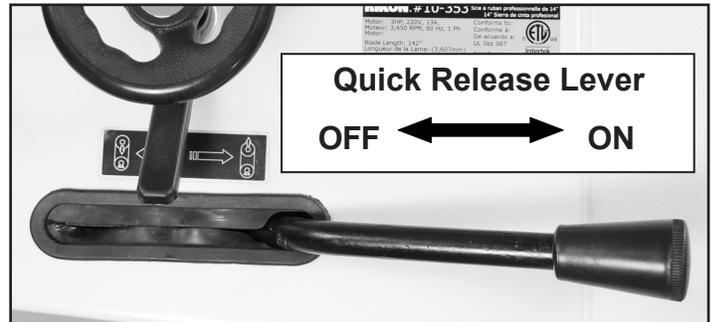
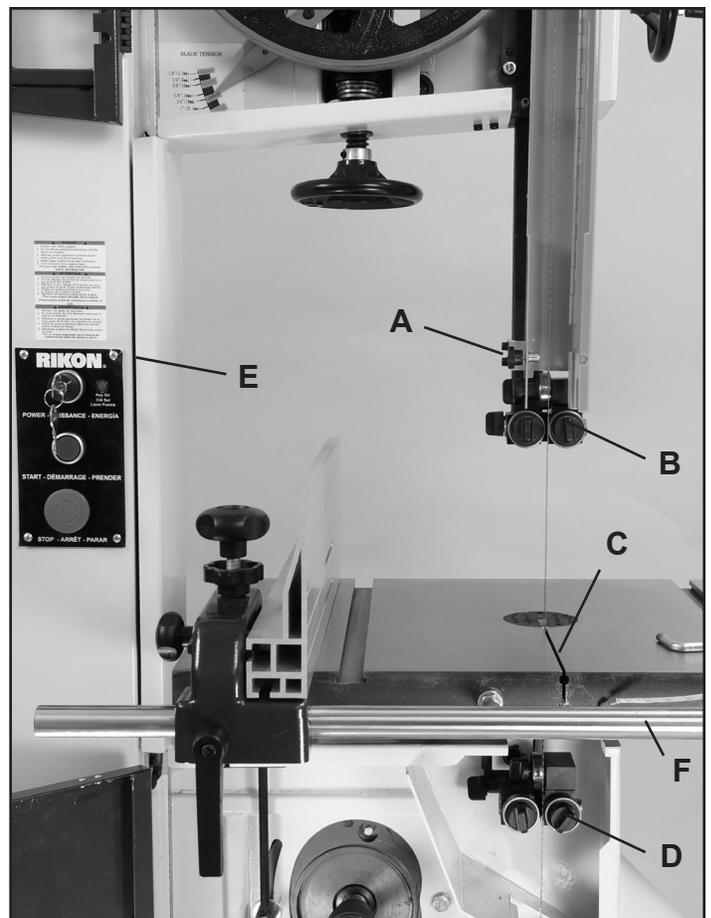

FIGURE 20
FIGURE 21
2. Release the blade tension by moving the quick release lever from the right to the left (OFF). Fig. 20.
3. Open the Hinged Door (#11C) on the blade guard by loosening the Locking Handle (#14C). Fig. 21, A.
4. Remove the saw blade from the top wheel then feed it through the upper blade guides (B), slot in the table (C), lower blade guides & lower blade guard (D), out of the slot in the column of the machine (E), off of the bottom wheel, and then around the front rail (F).
7. Re-tension the new blade by moving the quick release lever back to the ON position, Fig. 20, and check the blade tracking. The blade should run in the center of the wheels. Refer to “Tracking the Saw Blade” on pages 13 and 14 for more details.